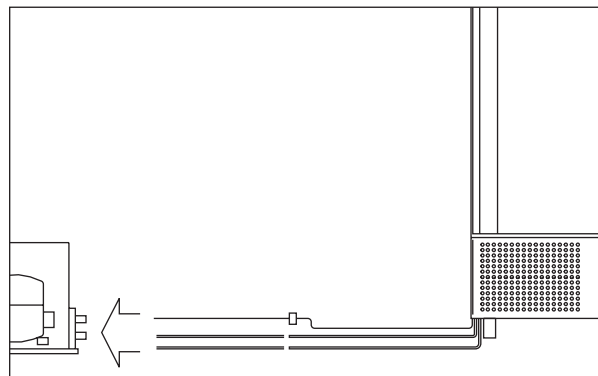

Fig.7
13.2 REM Blast chillers (Fig. 7)